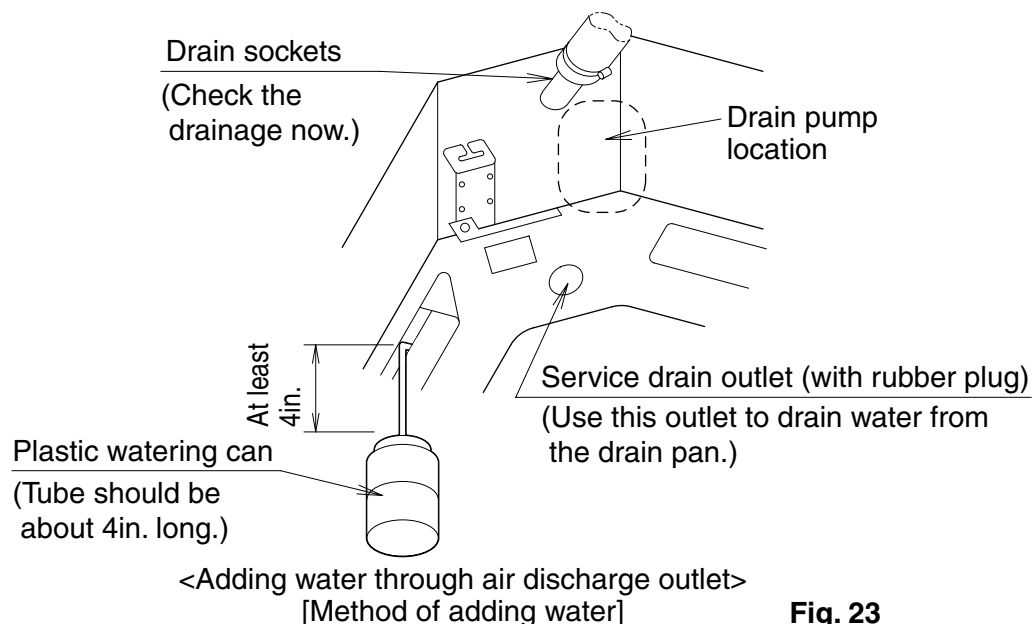
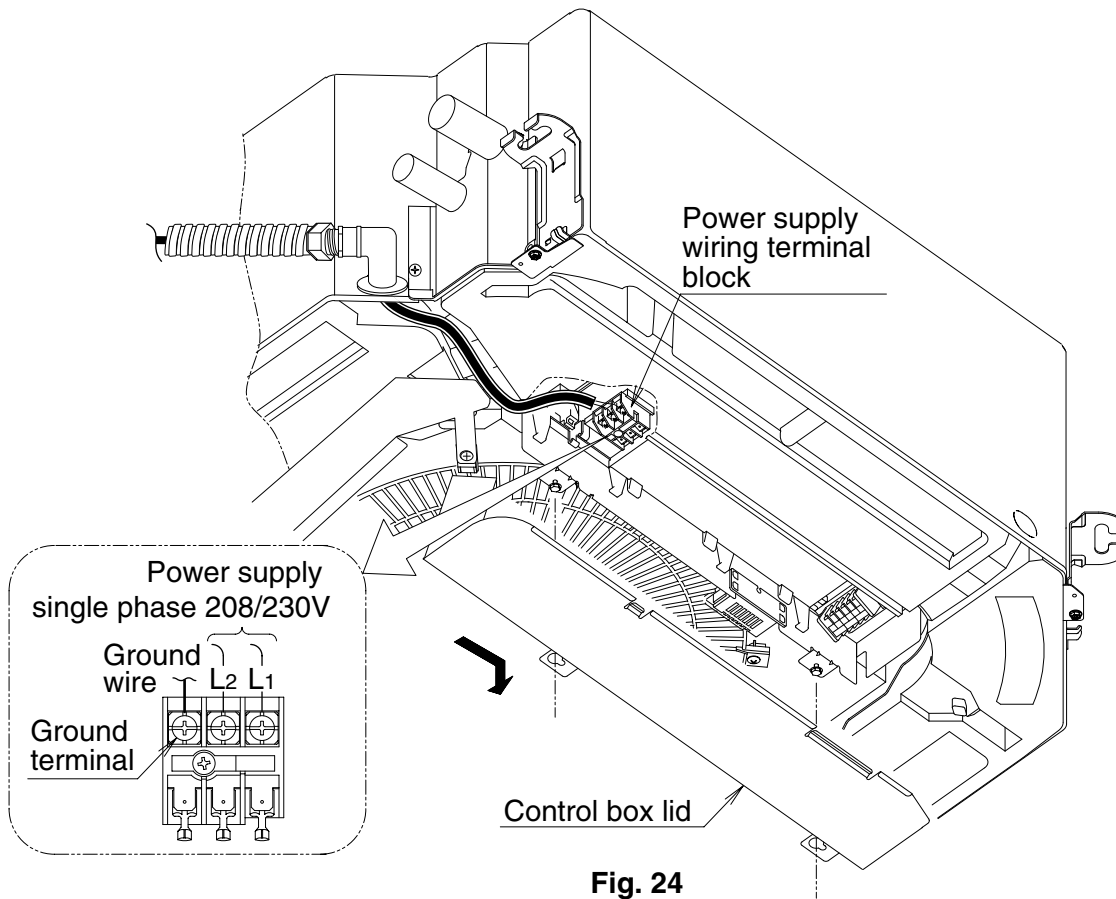

Fig. 23
Fig. 24
- When the power is turned on, the drain pump will operate and you can check the draining of water through the transparent part of the drain socket. (The drain pump will stop automatically in 10 minutes.) After checking the draining of water, mount the thermal insulation material for drainage (14) and thermal insulate the drain socket.
- After confirming drainage (**Fig. 23, Fig. 24**), turn off the power and remove the power supply.